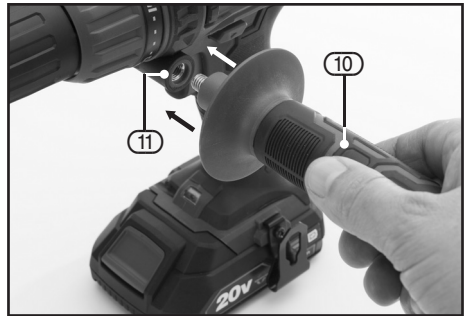

FIG.11
9.8 AUXILIARY HAND GRIP – FIG.11.
9.10 DRILLING WOOD AND PLASTIC – FIG. 11